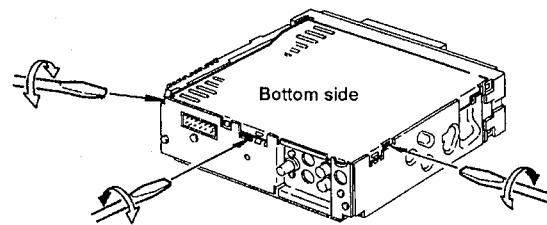

Fig. 4-2
- ◆ **Removing the bottom cover** (See Fig. 4-2)